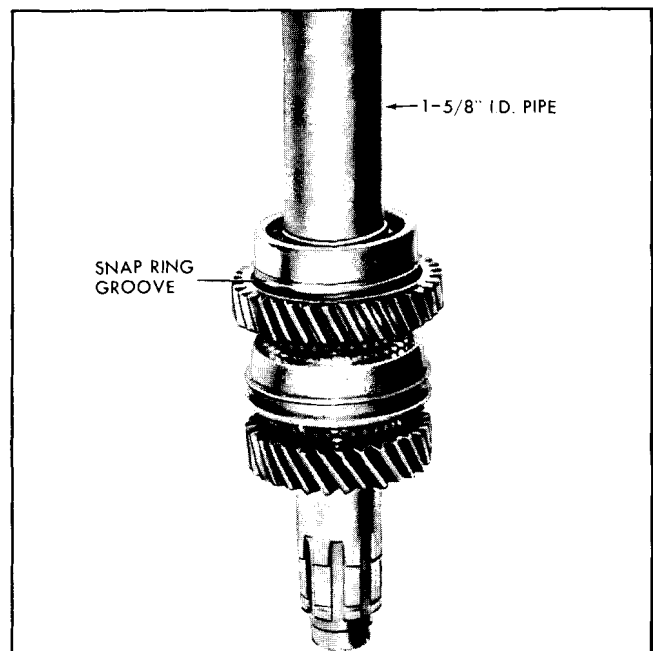

Fig. 7D-29 Installing Rear Bearing
9. Install the rear bearing retainer (Fig. 7D-30). Spread the locating ring in the retainer to allow the ring to drop around the rear bearing. Press on the end of the mainshaft until locating ring engages groove in the ring bearing.
10. Install the reverse gear (shift collar to rear) and two (2) anti-rattle springs (except close ratio).